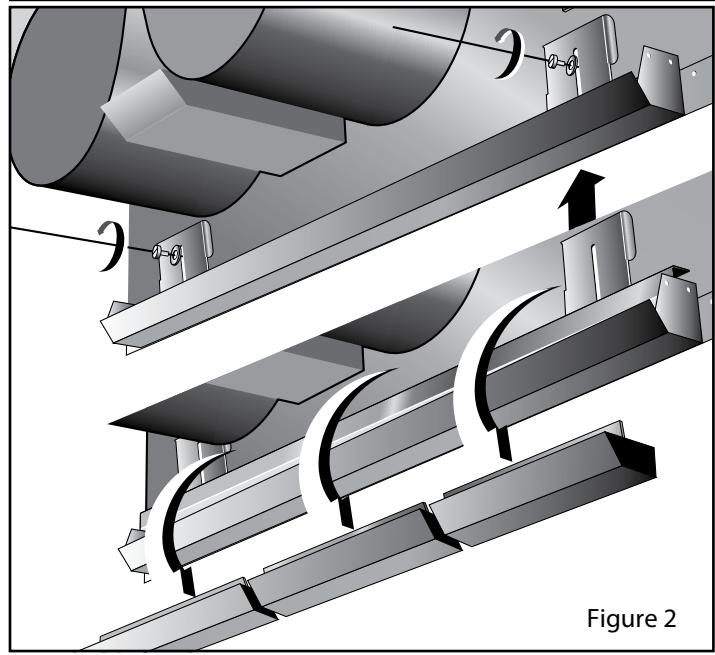

Figure 2
- Unscrews the knobs that fix the drip trays holding brakets. **Figure 2**
- Grasp the drip tray and carefully lift it up and out of the hood track. **Figure 2.**